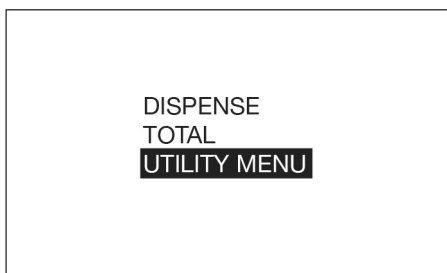

FIG. 17
4. Select the UTILITY MENU option (FIG. 17).